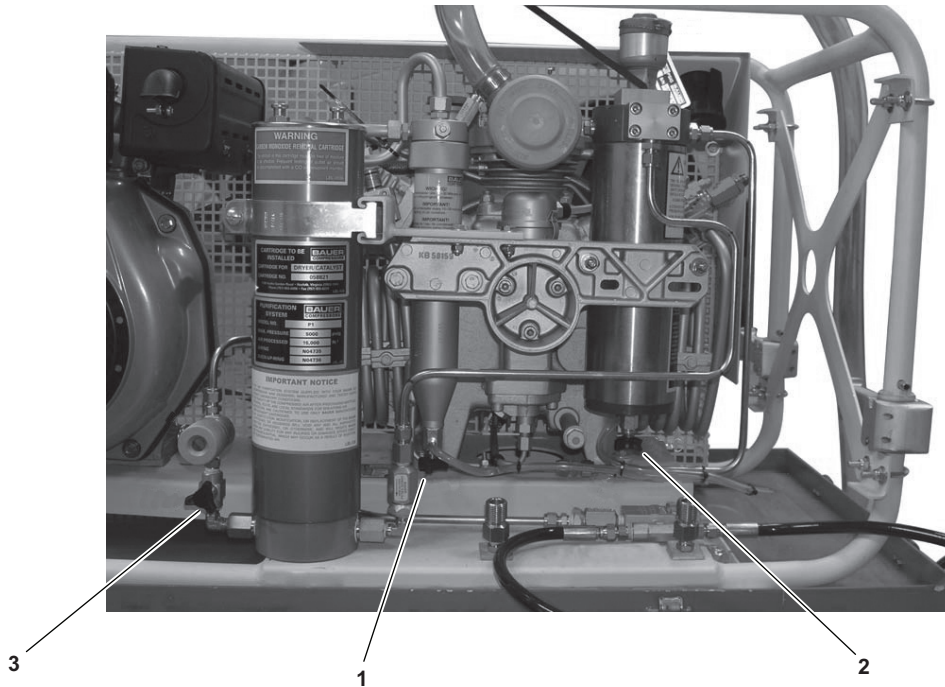

Figure 2-22. P1 Bleed Valve and Condensate Drain Valves
- j. Open (CCW) the intermediate separator condensate drain valve (figure 2-22, item 1) and the final separator condensate drain valve (figure 2-22, item 2) every 15 minutes during E-BAC/SS operation. Close the final separator and intermediate separator condensate drain valves when drainage is complete. Do not open the P1 bleed valve (figure 2-22, item 3).
- k. Ensure that the P1 bleed valve (figure 2-22, item 3) is closed.
- d. Open (CCW) the intermediate separator condensate drain valve (figure 2-22, item 1) and the final separator condensate drain valve (figure 2-22, item 2) to relieve any remaining pressure and to drain any remaining moisture from the system. Do not open the P1 bleed valve (figure 2-22, item 3).
- e. Close the intermediate separator condensate drain valve (figure 2-22, item 1) and the final separator condensate drain valve (figure 2-22, item 2).